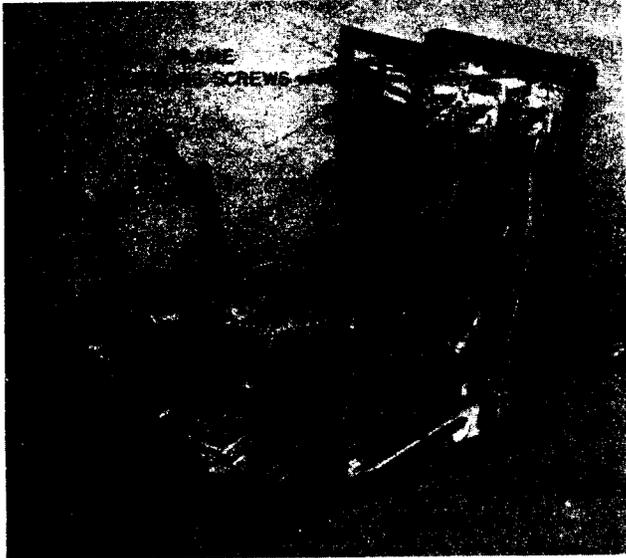
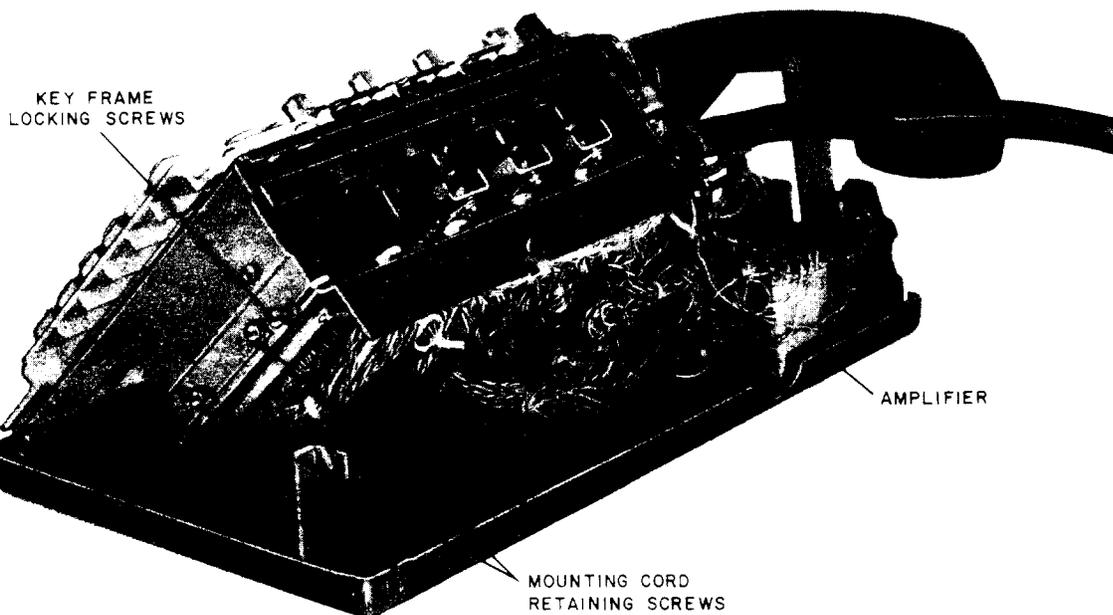

Fig. 25—Key Frame Raised in Current Production Telephone Set
Fig. 26—Key Frame Raised on Early Production Telephone Set
- (1) Remove housing.
- (2) Remove mounting cord clamp (early sets).
- (3) Loosen key frame locking screws. [Located on front of key frame on current production telephone sets (Fig. 25) and on the side of key frame on early production sets (Fig. 26)].
- (4) Raise key frame (Fig. 25 and 26).
- (5) Remove dial mounting plate (do not disconnect leads).